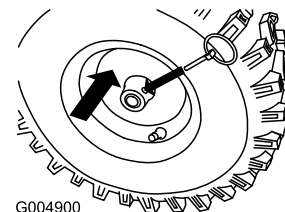

Figure 5
8. Slide the wheels inward and insert each axle pin through the hole in each wheel hub and through the **outer** hole of the axle (Figure 5).